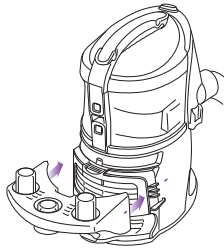
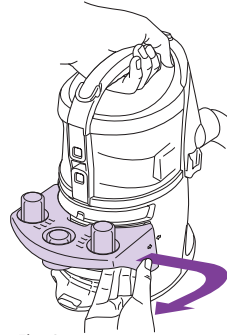

Fig. 2
Fig. 3
- 2 Insert the removable tool caddy onto the back of the Portable Vac. (**fig. 2**) To remove the tool caddy, hold the vacuum by the handle, pull out slightly from the right side and then remove it from the Portable Vac. (**fig. 3**)
- 3 Insert the crevice tool, dusting brush, upholstery brush or power brush into the openings on the tool caddy. (**fig. 3**)